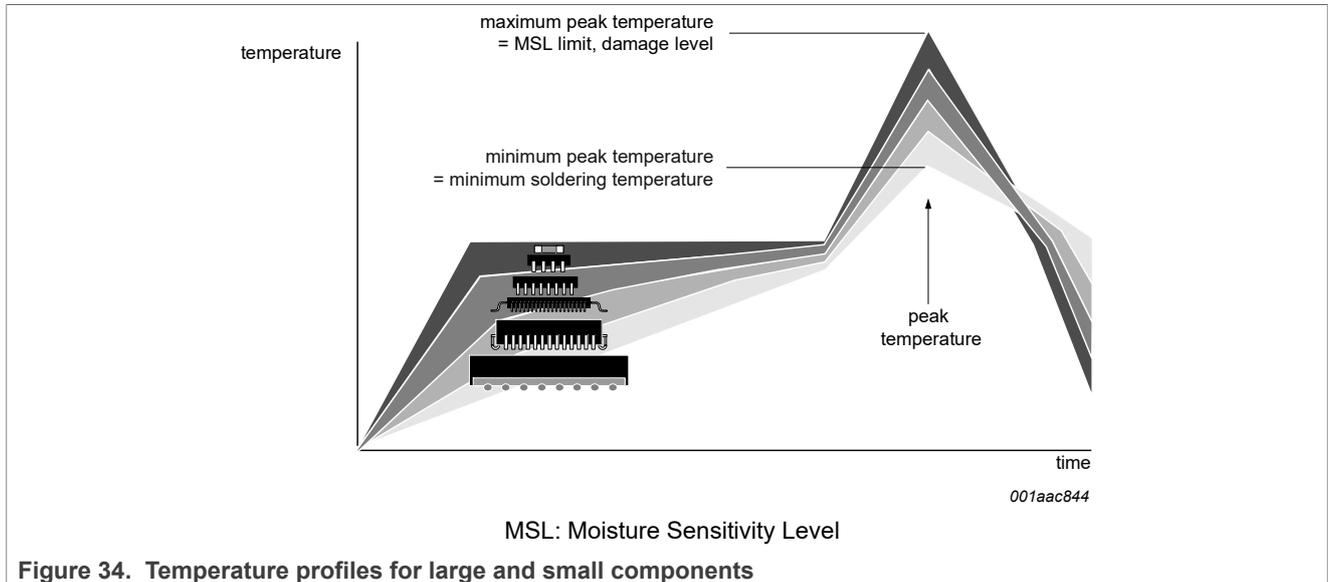

Figure 34. Temperature profiles for large and small components
- Lead-free versus SnPb soldering; note that a lead-free reflow process usually leads to higher minimum peak temperatures (see Figure 34) than a SnPb process, thus reducing the process window
Studies have shown that small packages reach higher temperatures during reflow soldering, see Figure 34.